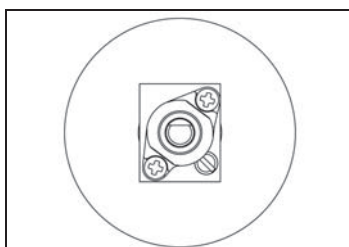

Fig. 13
- For all burners except for the wok burner, insert a small slotted screwdriver into the hole on the valve rod (Fig. 13) and turn the choke screw to the right or left until the burner flame is adjusted to minimum.